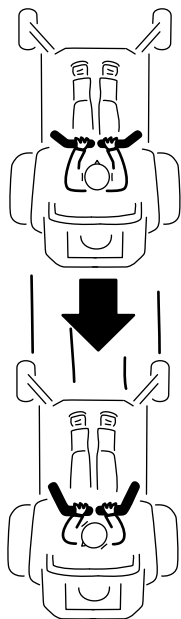

Figure 26
2. To go backward, slowly pull the motion control levers rearward (Figure 26).